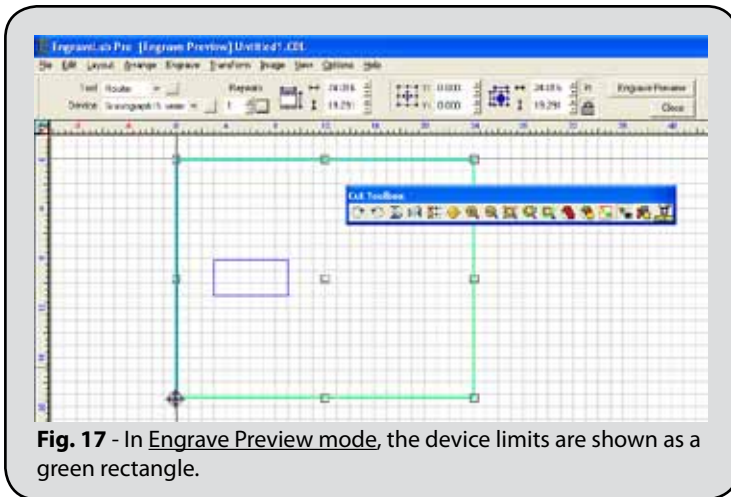

Fig. 17 - In **Engrave Preview mode**, the device limits are shown as a green rectangle.
1. Now that the tool path has been created, choose **Engrave** menu >> **Output** to activate **Engrave Preview** mode. The tool path will be positioned as it would be cut upon the material (Fig. 17).